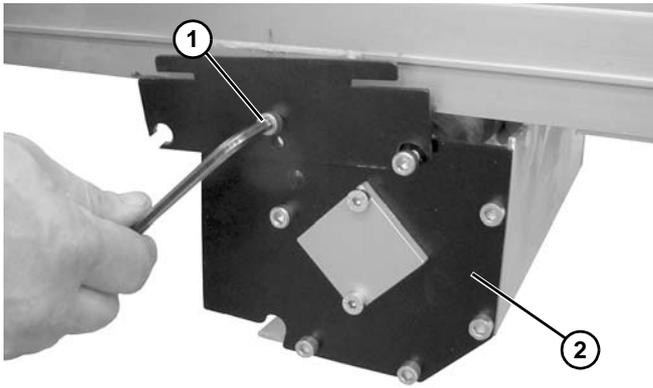

**Figure 48**
3. Remove screw (**Figure 48, item 1**) on both sides of bracket and remove takeup roller (**Figure 48, item 2**).